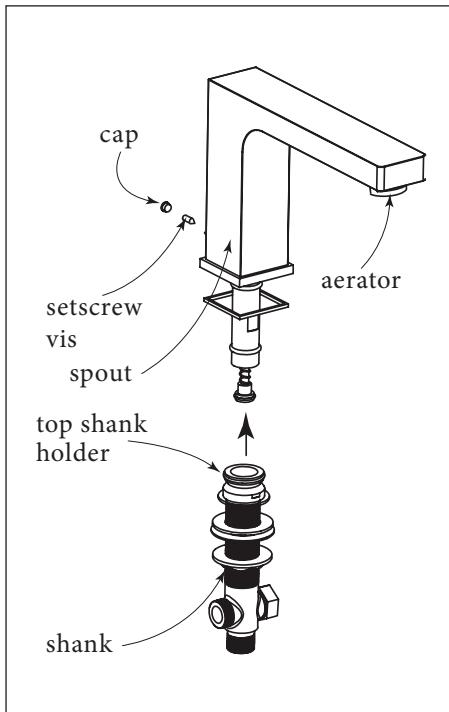

Fig.1
C. Remove the cap and unscrew the setscrew and take off the shank. Remove the top shank holder from the shank body, (Fig.1).